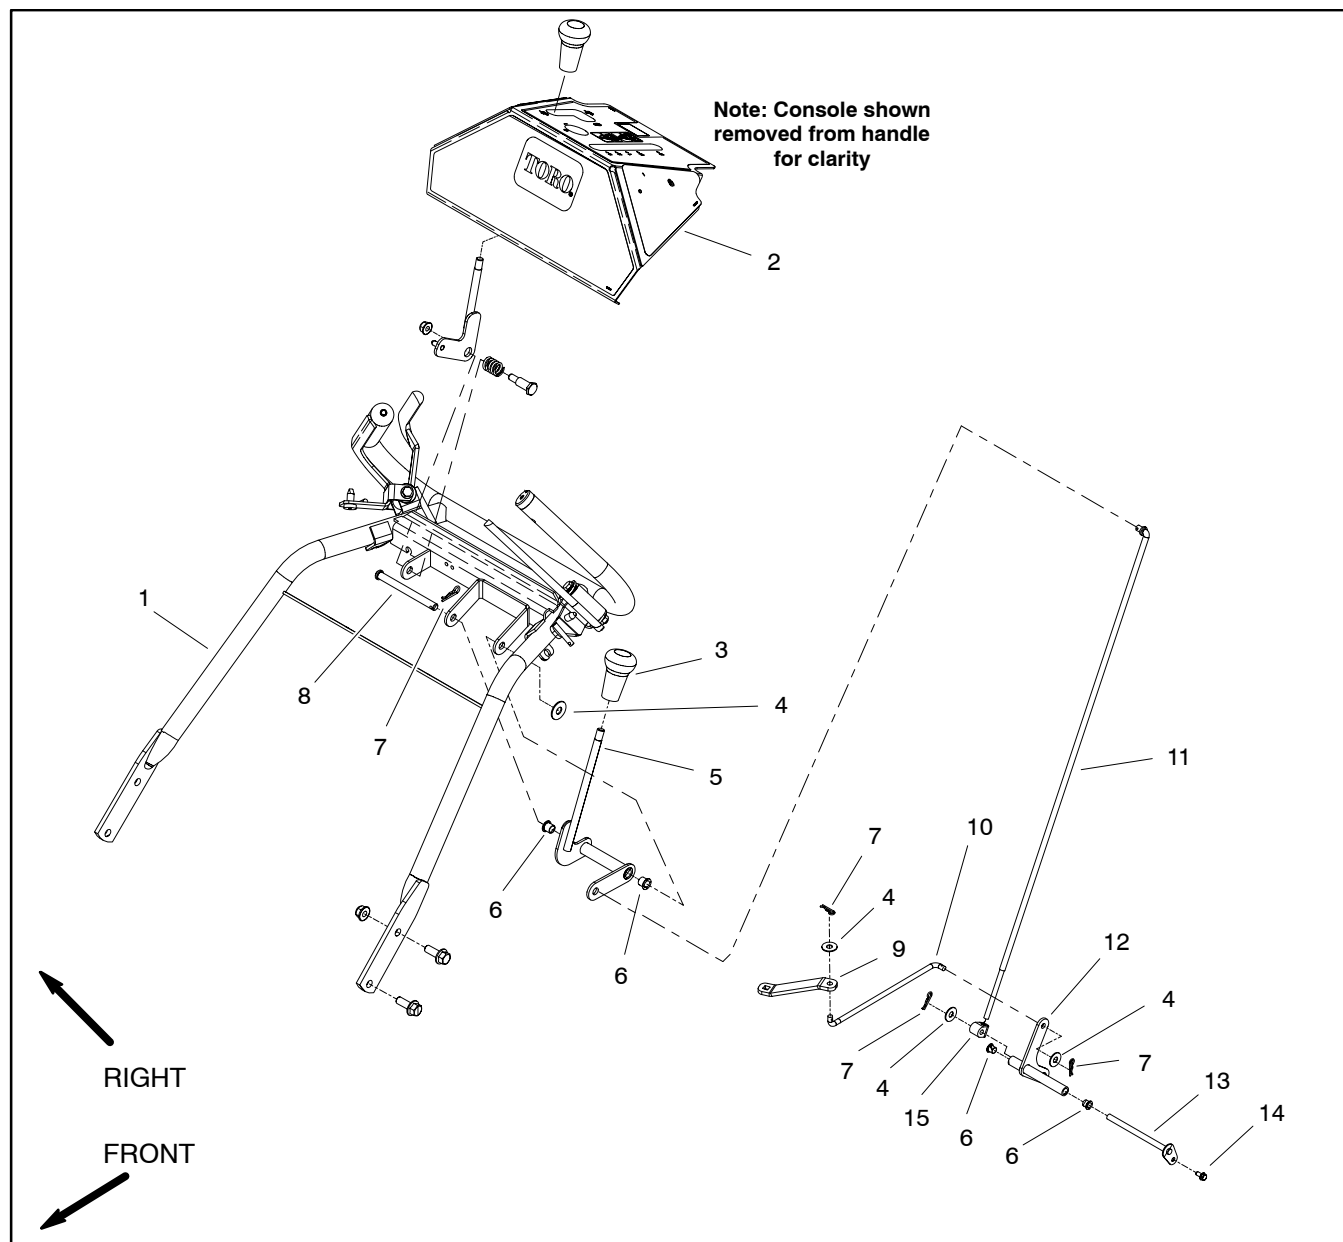

Figure 3
Disassembly (Fig. 3)
2. Disassemble shift linkage components as needed using Figure 3 as a guide.
Assembly (Fig. 3)
1. Assemble shift linkage components using Figure 3 as a guide.
2. After assembly of shift linkage components, make sure that console shift lever movement allows correct transaxle shifting. If necessary, adjust rod fitting (item 15) location on control rod for proper shifting.